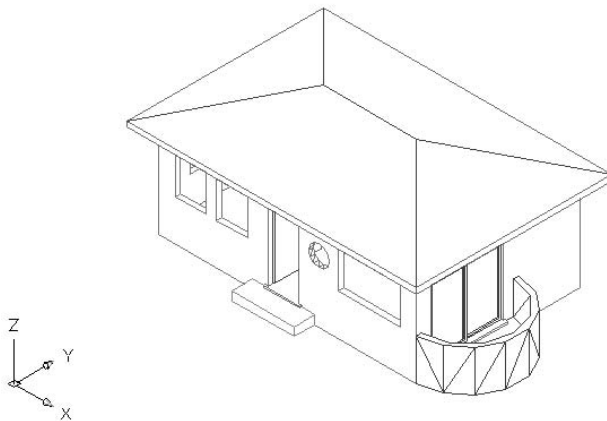

FIGURE A.25: The completed cabin after a Hide
12. Zoom to Extents, and then choose View > Hide to view the cabin (see Figure A.25).